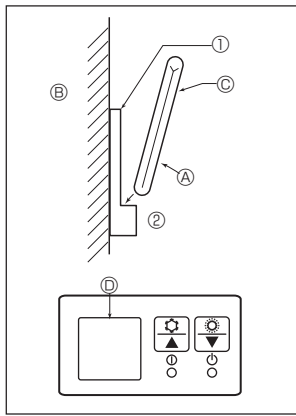
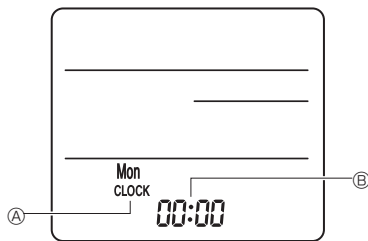

Fig. 6-7
Fig. 6-8
2) Installation method (Fig. 6-7)
- ① Attach the remote controller holder to the desired location using 2 tapping screws.
- ② Place the lower end of the controller into the holder.
3) Setting (Clock setting) (Fig. 6-8)
- ① Insert batteries or press the **CLOCK** button with something sharp. [CLOCK] Ⓐ and [:] Ⓑ blink.
- ② Press the **RESET** button with something sharp.
- ③ Press the **↓** button to set the time. Press the **DAY** button to set the Day.
- ④ Press the **CLOCK** button with something sharp at the end. [CLOCK] and [:] lit.